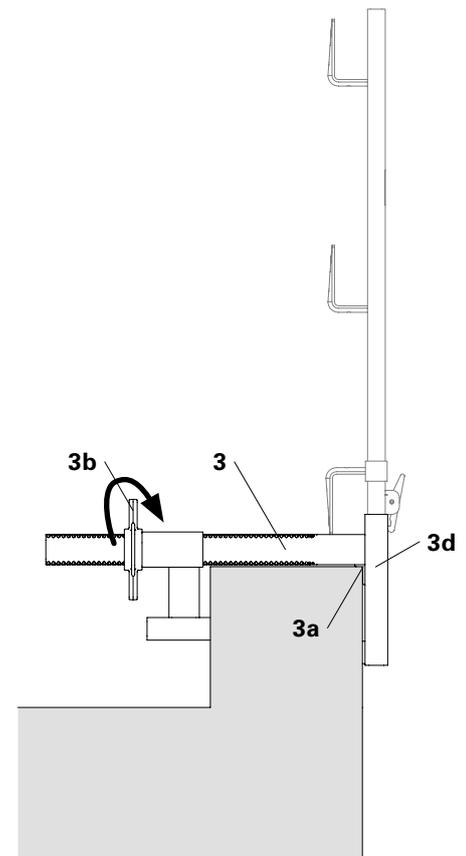

Fig. A2.08
- parapet: rectangular tube (3d), (Fig. A2.08)